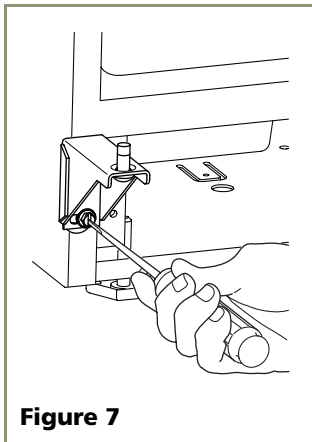

Figure 7
4. Install hinge on opposite side, bottom of cabinet. See **Figure 7**. Replace nut on back side where installed. Align hinge outer edge with cabinet before tightening screws.
5. Install hinge bracket on opposite side, bottom of cabinet. See **Figure 7**. Replace nut on back side where installed. Align hinge outer edge with cabinet before tightening screws.